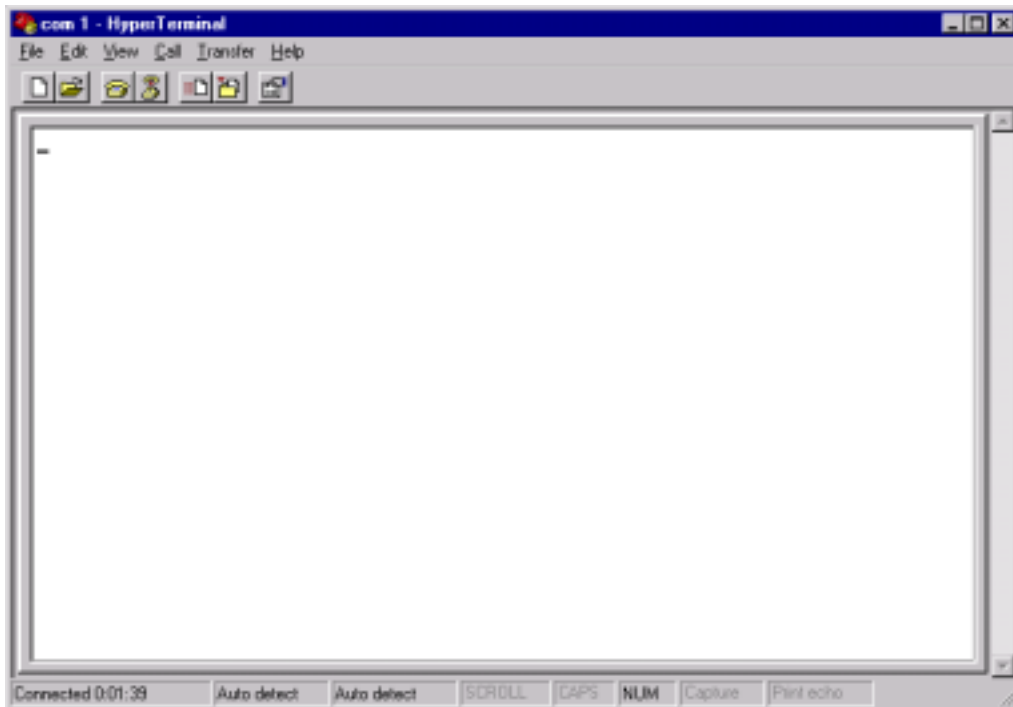

Figure 1-4
- 6) Once you click ok the Hyper Terminal window will open as shown in figure 1-4.